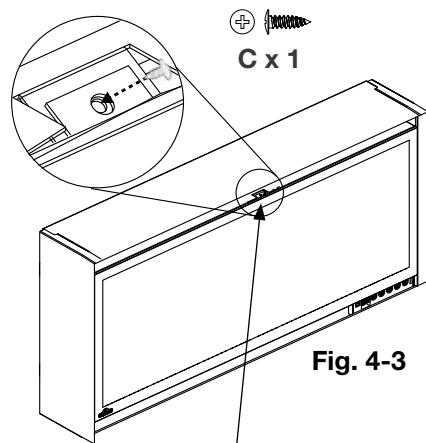

Fig. 4-3
- Secure the top middle section of the front glass to the appliance using a screw (supplied) (**Fig. 4-3**).